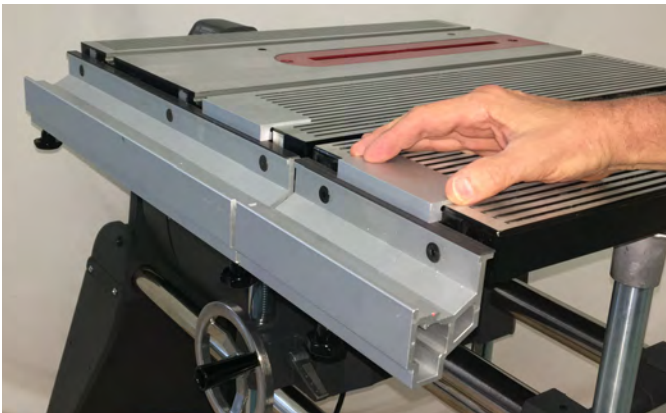

Figure B-104
76. Place the straightedge along the infeed-side tops of both the worktable and extension table rails, as shown in Figure B-104.